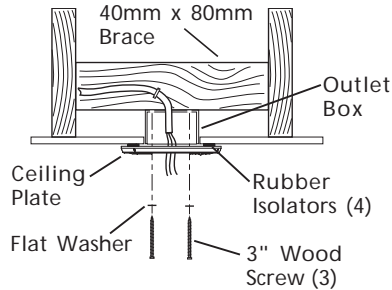

Figure 2c - Attaching Ceiling Plate to 40 mm x 80 mm Brace
4. Place a flat washer on each of the two 3" wood screws and pass the screws through two opposing oval slots in the ceiling plate, as shown in Figure 2c. You may substitute the 3" wood screws with the provided 1 $\frac{1}{2}$ " wood screws for shorter depth installations. Be sure that enough of the screws enters the mounting surface to support the assembled fan.